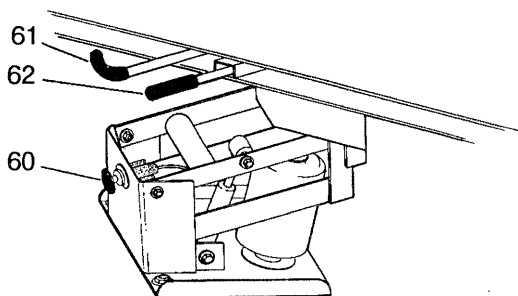

Fig. 3-13 Seat Adjustment Controls
60. Seat Height Adjustment Control See Fig. 3-13
See Fig. 3-13